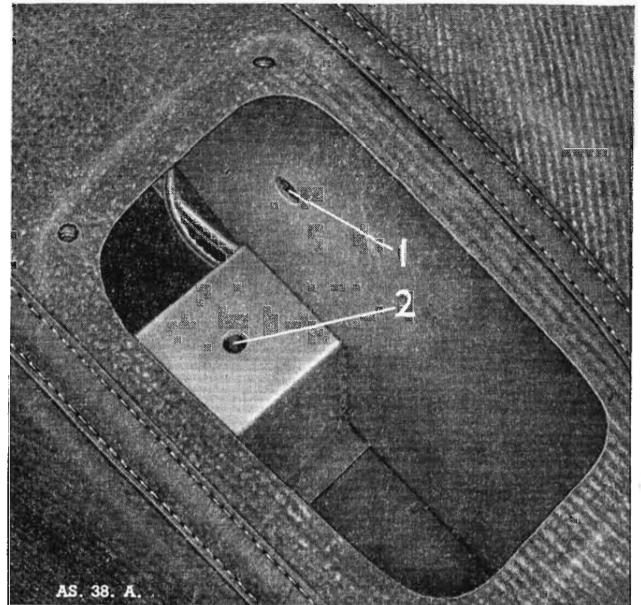

Fig. F.3. View through the gearbox change-speed-lever aperture showing the location of the rear mounting setpins.
- (4) Peel back the carpet surrounding the gearbox cover to expose the gearbox rear mounting setpins. The location of one of the setpins is shown (1) Fig. F.3. Unscrew both setpins.
- (5) Working beneath the vehicle, unscrew the speedometer drive cable at its union with the gearbox rear extension.
- (6) Detach the clutch slave cylinder from the clutch bell-housing by unscrewing its two mounting setpins and withdrawing the push rod from the rear of the cylinder.
- (7) Disconnect the propeller shaft from the rear axle by unscrewing the four self locking nuts.
- (8) Unscrew the remaining two gearbox rear mounting setpins, one of which is located at (2) Fig. F.3.